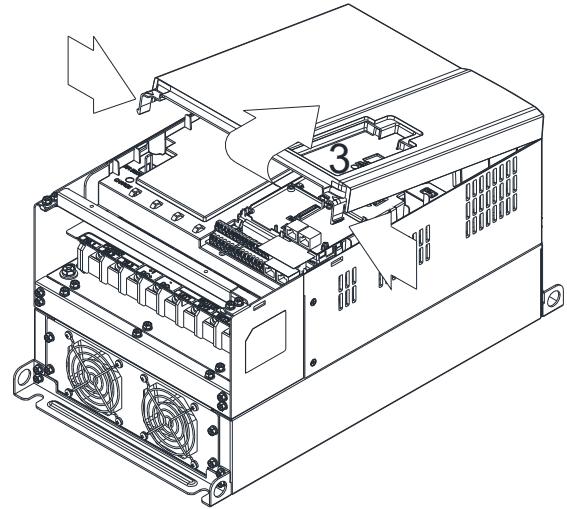

Figure 2
2. (Figure 2) Loosen screw 3, press the tab on the right and the left to remove the cover. Screw 3 Torque: 6~8 kg-cm / [5.2~6.9 lb-in.] / [0.6~0.8 Nm]